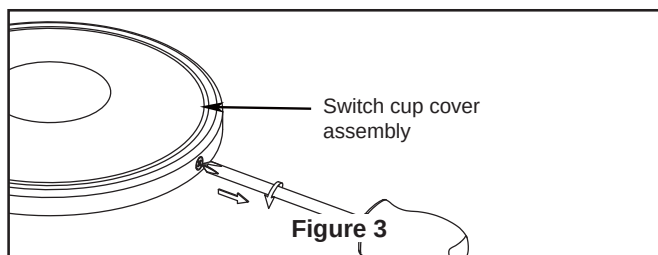

Figure 3
Your new ceiling fan will require a grounded electrical supply line of 120 volts AC, 60 HZ, 15 Amp Circuit. Electrical code requires use of a fan-rated outlet box to support the extra weight and motion associated with a ceiling fan. A fan-rated box will be labeled as such and typically supports up to a 70lb ceiling fan. Fan-Rated Outlet Boxes vary in ratings and design. Ensure the ratings of your ceiling fan outlet box meet the requirements for the ceiling fan being installed. Figure 1, Figure 2 and Figure 3 depicts different structural configurations that may be used for mounting the outlet box.
No blocking (Figure 3)
- ☐ 3. Loosen the two set screws in the downrod support of the motor assembly. Route the black, white and blue wires through the downrod. (Figure 3)
- ☐ 1. Securely attach the hanger bracket to the outlet box using the outlet box screws and washers supplied with the fan. (Figure 3)
- ☐ 3. Disassemble switch cup cover from switch cup support plate by removing three screws. (Figure 3)